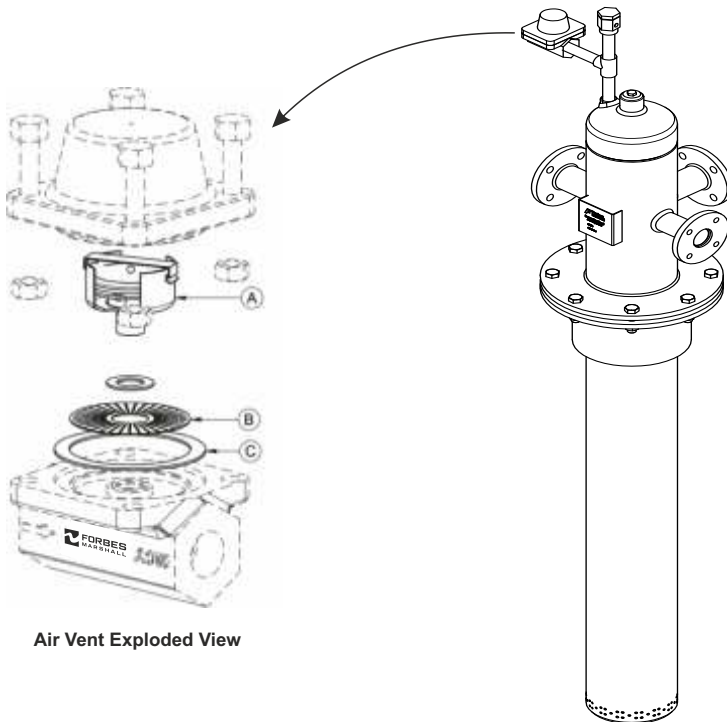

Figure 3: Parts available as spares (Heavy line) of Forbes Marshall Air Vent
6.5. Procedure to fit or replace thermopod and seat assembly of Forbes Marshall Air Vent: [Refer figure 3]
6.6. Procedure to clean or replace the strainer screen of Forbes Marshall Air Vent: [Refer figure 3]
8. Available Spares: [Refer figure 1 and figure 3]